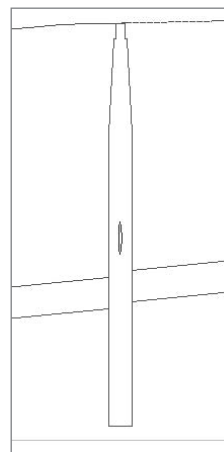

Figure 13.12
- Note that the pipes connecting from runs in the cul-de-sacs show the appropriate manholes as ellipses (see Figure 13.12).